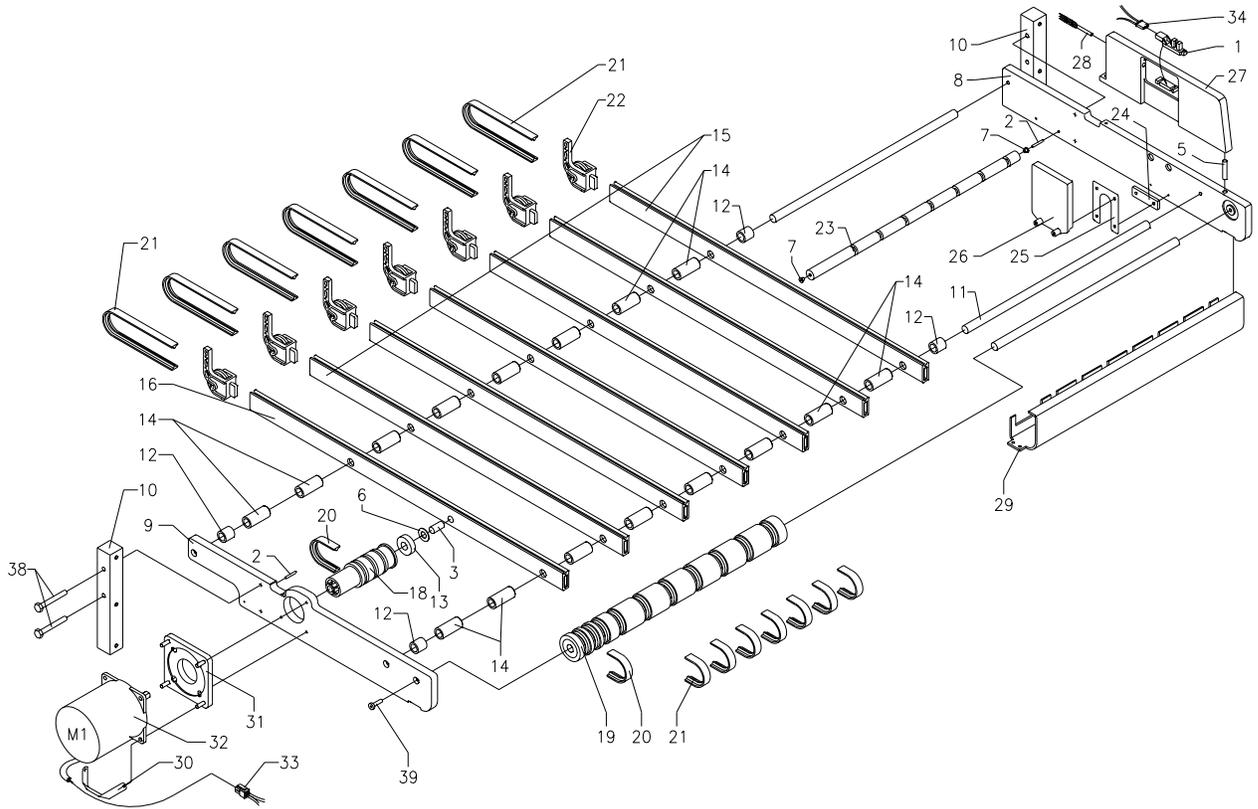

Figure 7-2: Infeed Conveyor Assembly
1. Refer to Figure 7-2 for parts locations.
To replace the infeed drive belts, refer to Figure 7-2 for parts locations and proceed as follows:
When replacing the motor or pulley, it is very important to follow this procedure to prevent pre-loading the motor bearings that will result in premature motor failure and noisy operation. (Refer to Figure 7-2).
If either of the measurements are not within tolerance, loosen the four mounting screws (Item 38 in Figure 7-2). Remove one screw at a time, apply blue Loctite, and re-install. Align the infeed conveyor assembly. Once the infeed has been properly positioned, torque the mounting screws to 175 inch pounds.